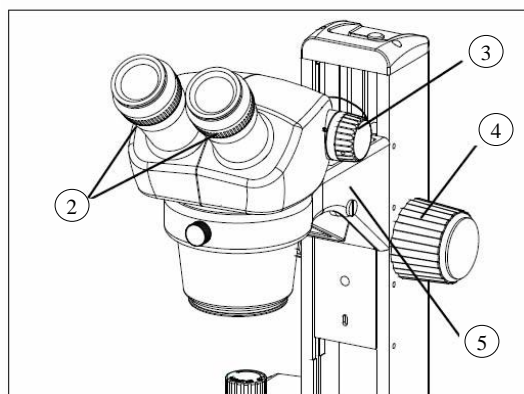

Figure 8
#### 3.1.2. Adjusting diopter ring (Figure 8)
3. Rotate the zoom body knob ③ to the highest magnification 4.5x, and turn the focusing knob ④ to focus the specimen.
4. Rotate the zoom body knob ③ to the lowest magnification 0.7x, looking only into the left eyepiece, adjust the diopter ring on left eyepiece to focus the specimen. Then do the same thing for the right one.
5. Repeat item 3 and 4 until the specimen image can always focus without any adverse effect of the changes of magnification on the definition of the image.
- The working distance of the microscope is 97mm, the binocular head bracket ⑤ could be mounted onto the higher or lower position according to your needing. Remove the clamping bolt with provided hexagonal driver and move the bracket ⑤ down to the lower position and set it with original bolt (Figure 8).